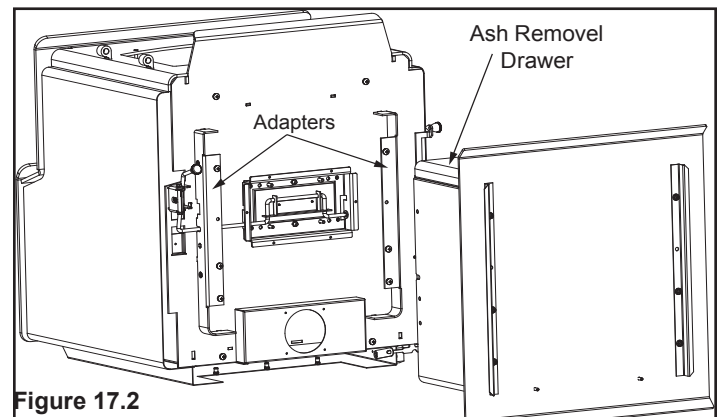

Figure 17.2
3. Lay appliance on its back on a protective pad or pallet (**Figure 17.2**).
4. Remove heat shield by loosening the four bolts using 3/8 open end wrench (**Figure 17.2**).
5. Remove 8 nuts that hold the cover plate on using a 7/16 socket wrench; discard cover plate (**Figure 17.2**).
6. Remove knock out from bottom of firebox by using a hammer (**Figure 17.2**).
3. Lay appliance on its back on a protective pad or pallet (Figure 17.2 on page 17).
4. Remove heat shield by loosening the four bolts using 3/8 open end wrench (Figure 17.2 on page 17).
5. Remove 8 nuts that hold the cover plate on using a 7/16 socket wrench; discard cover plate (Figure 17.2 on page 17).
- Remove knock out from bottom of firebox by using a hammer (**Figure 17.2 on page 17**).